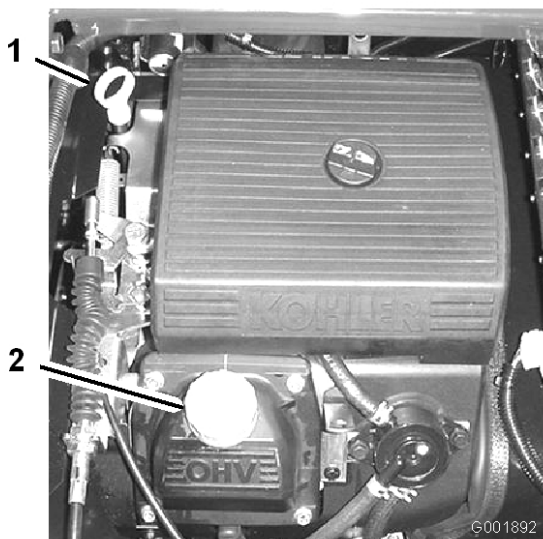

Figure 21
2. Remove the dipstick and wipe it with a clean rag (Figure 21). Insert the dipstick into the tube and make sure it is seated fully. Remove the dipstick and check the oil level.
3. If the oil level is low, remove the filler cap from the valve cover (Figure 21) and pour oil into the opening until the oil level is up to the Full mark on the dipstick; refer to Servicing